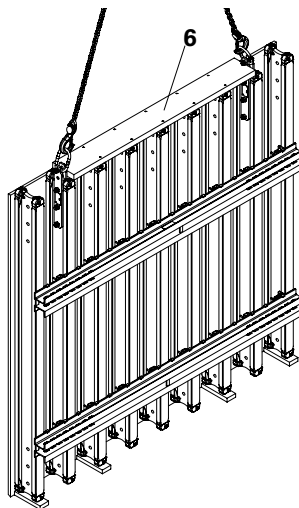

Fig. 6
- Check if the Compression Brace (6) is securely positioned. (Fig. 6)
(Fig. 6)